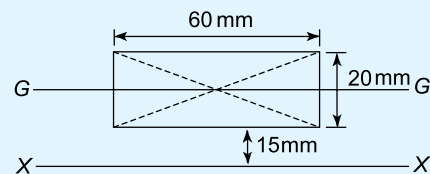

Figure 9.41
2. The second moment of area about axis GG of the rectangle shown in Figure 9.41 is:
3. The second moment of area about axis XX of the rectangle shown in Figure 9.41 is:
4. The radius of gyration about axis GG of the rectangle shown in Figure 9.41 is:
5. The radius of gyration about axis XX of the rectangle shown in Figure 9.41 is: